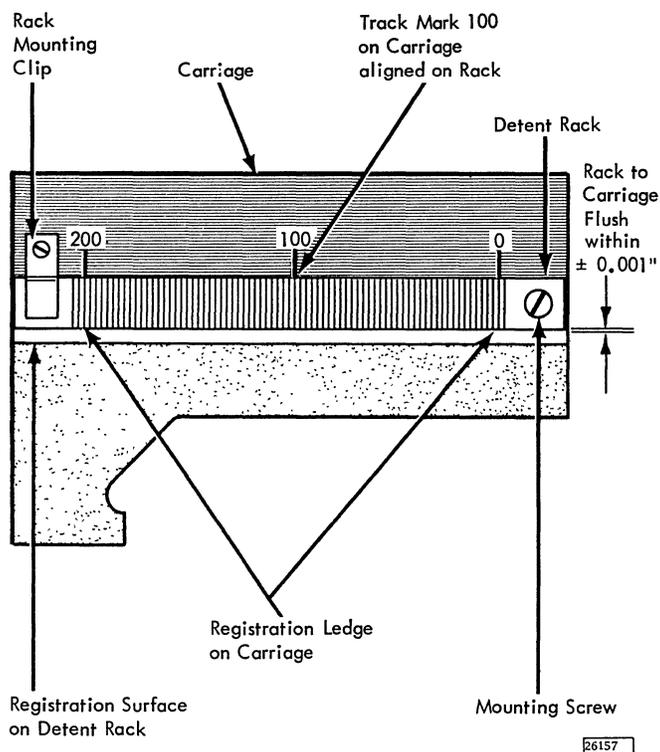

Figure 4-5. Detect Rack Removal and Replacement
2. Remove the single binding-head mounting screw and clip that secure detent rack (Figure 4-5) to the carriage.
1. Place detent rack in position shown in Figure 4-5. Position rack so that calibrated mark for track 100 on carriage is aligned with corresponding mark on rack. Press downward on rack to ensure contact between registration surfaces on